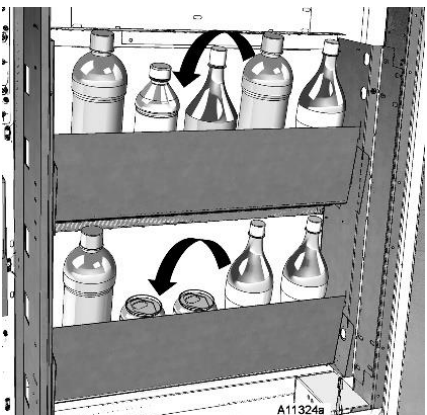

Figure 7. Insert Can or Bottle
3. Load the can or bottle on two shelves. See **Figure 7**.